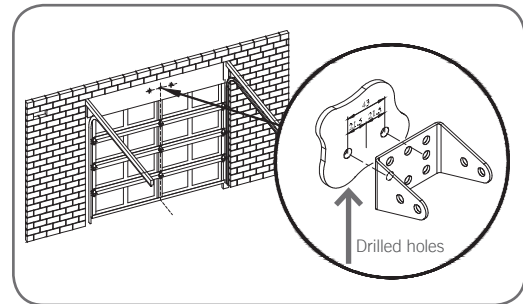

Fig. 14
- Determine the centre point on the wall above and on top of the door. Then draw two (2) lines extending 21.5mm from each side of the centre point. (**Fig. 14**)
- Centre the bracket over the intersection of these two lines. Mark centres for at least two holes (**Fig. 14**).